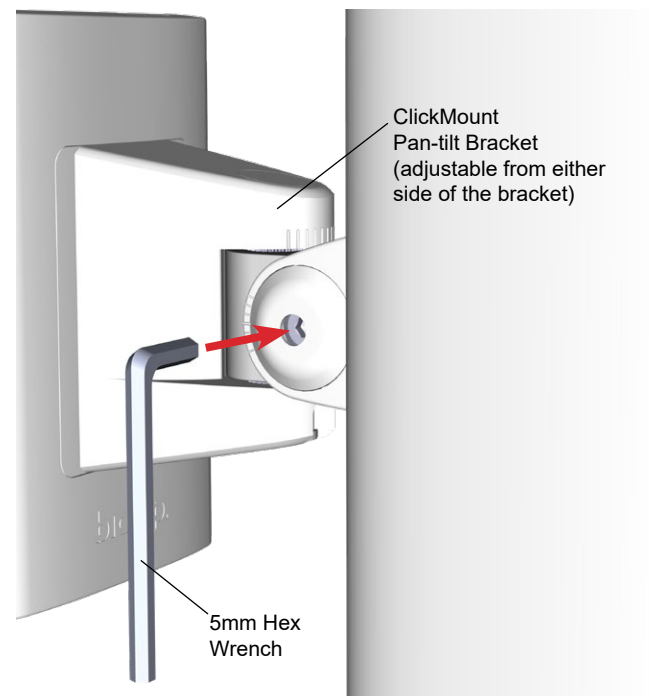

Figure 7. Insert and turn the hex wrench to loosen or tighten the bracket to adjust the aiming angle
7. Insert a 5mm hex wrench into the bracket as shown (Figure 7) and loosen. The adjustment mechanism can be accessed from either side of the bracket.